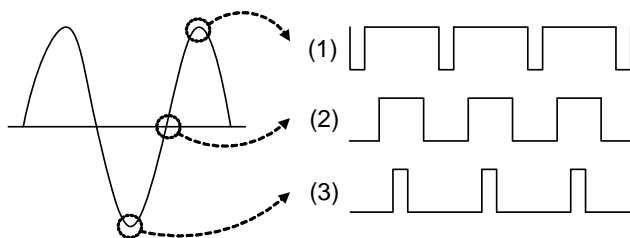

Figure 2. PWM Generation
Figure 2 shows characteristic of the PWM signal. DAC works to generate the PWM signal showing that high level code like the top part of the sine wave is converted so that high level of the PWM continues for long time such as (1), middle level code like the middle part of the sine wave is converted so that the duty of the PWM is around 50: 50 such as (2) and low level code like the low part of the sine wave is converted so that low level of the PWM continues for long time such as (3). Delta-Sigma Modulator causes this modulation.